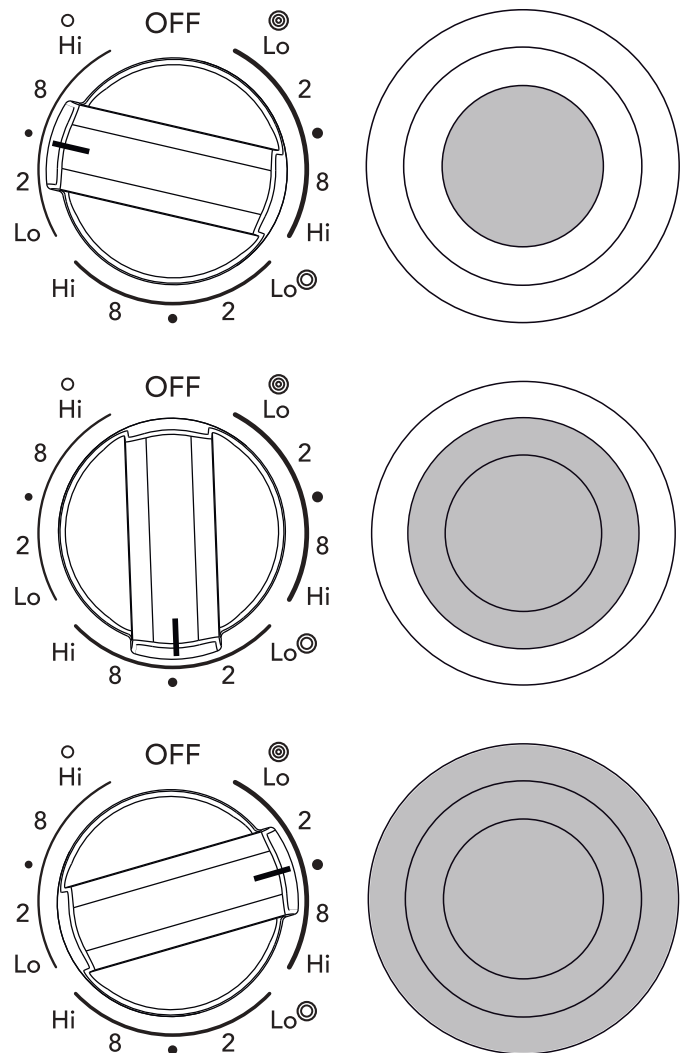

Figure 8: Triple element knob settings
Symbols around the knob are used to indicate which element of the triple radiant element will heat. The ○ symbol indicates that only the inner element will heat. The ◎ symbol indicates that the inner and middle elements will heat. The ⊙ symbol indicates that the inner, middle and outer elements will heat (Figure 8). You may switch the element setting at any time during cooking.
2. Push in and turn the control knob to the inner element symbol for smaller cookware or to the inner and middle element symbol for average cookware or to the inner, middle, and outer element symbol for large cookware (Figure 8). Turn the knob to adjust the setting if needed.